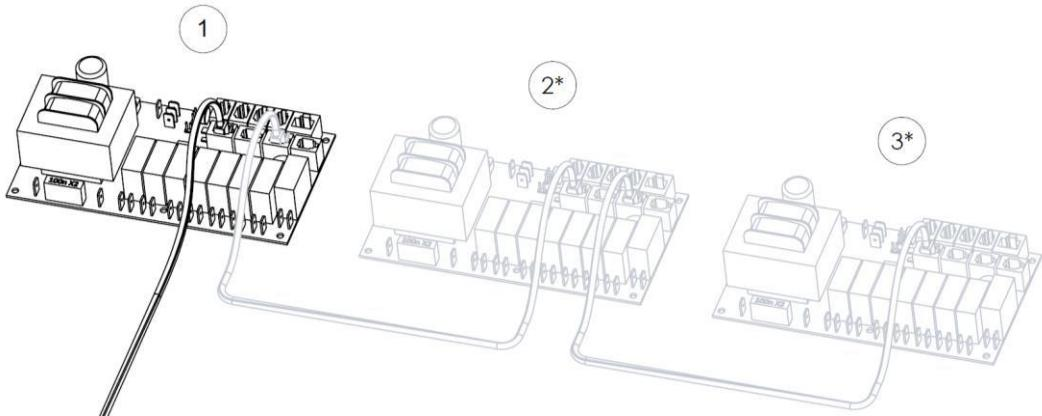

Fig. 18
The connections between the generators use a low power cable (4 core) with an RJ10 connector, (Fig. 18.) Refer to the section "Modular connector description" (Fig.18) for more information on the pin configuration.
If one steam generator needs servicing the others can remain in operation. One generator that is set as a secondary is disconnected by removing the cable from between the circuit boards. (Fig. 18)
2. Disconnect the cable that connects the control circuit boards (Fig. 18)